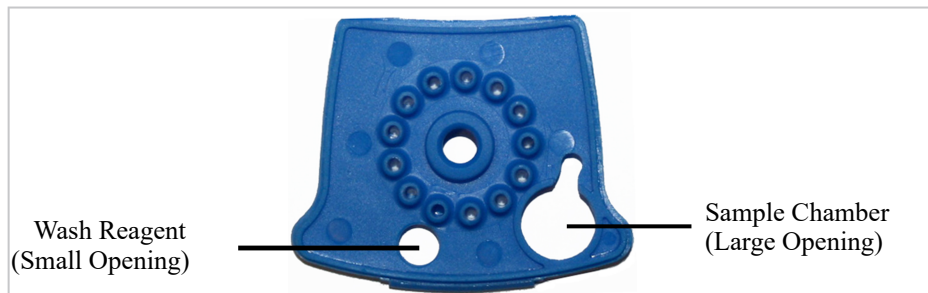

Figure 1 Xpert PML-RARA RUO Cartridge (Top View)
3. Lift the cartridge lid and transfer the entire contents of the Wash Reagent (1) ampoule to the Wash Reagent Chamber (small opening). See Figure 1.
4. Pipette the entire contents of the prepared sample into the Sample Chamber (large opening). See Figure 1.
3. To the new conical tube containing lysate, add 1.5 mL of Lysis Reagent (LY).
8. Open the cartridge by lifting the cartridge lid and transfer the entire contents of the Wash Reagent (1) ampoule to the Wash Reagent chamber (with small opening). See Figure 1.
9. Pipette the entire contents of the prepared sample into the Sample Chamber (large opening). See Figure 1.
7. Open the cartridge by lifting the cartridge lid and transfer the entire contents of the Wash Reagent (1) ampoule to the Wash Reagent chamber (with small opening). See Figure 1.
8. Pipette the entire contents of the prepared sample into the Sample Chamber (large opening). See Figure 1.